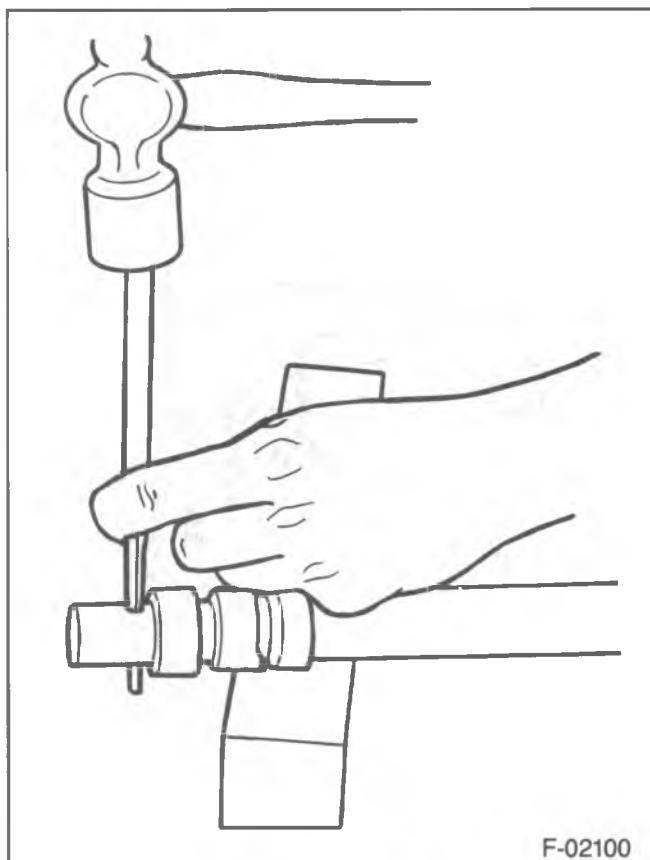

Figure 47—Removing the Roll Pin
12. Roll pin (27) from the shaft (26) (figure 47).
13. Driven gear (29) on distributor for a 6-cylinder engine.
14. Driven gear (29), shim washer (31) and thrust washer on distributor for an 8-cylinder engine.
15. Timer core shaft (26) from the housing (30).